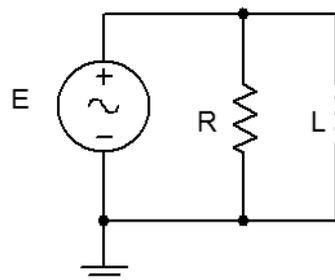

Figure 5.2
8. Replace the capacitor with the 10 mH inductor (i.e. Figure 5.2), and repeat steps 1 through 7 in like manner, using Tables 5.3 and 5.4.